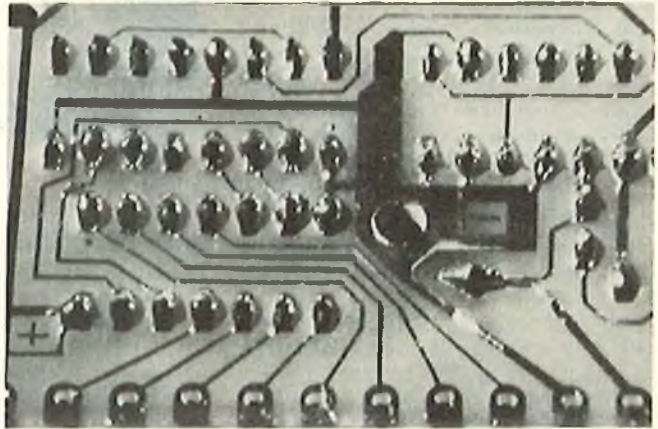

FIGURE 8
15. Installation of resistor R-1 shall occur after testing (see Fig. 8).